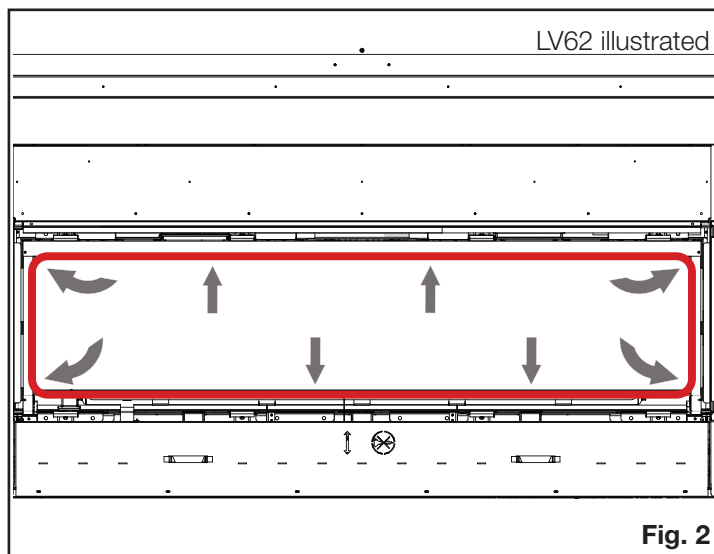

Fig. 2
7. Continue working the gasket into the cavity, ensuring it covers the entire distance along the fixed door (**Fig. 2**).